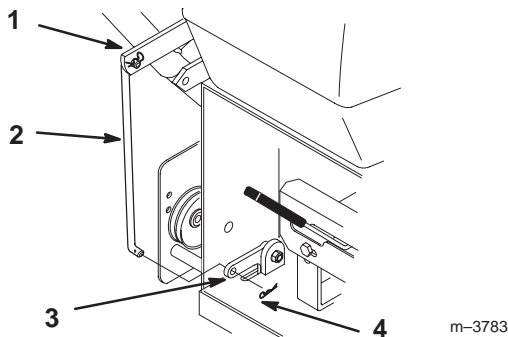

Figure 9
- Remove hairpin cotters from bottom end of blade control rod (PTO) (Fig. 9).
- Secure blade control (PTO) rod through hole in bellcrank with hairpin cotters (Fig. 9).